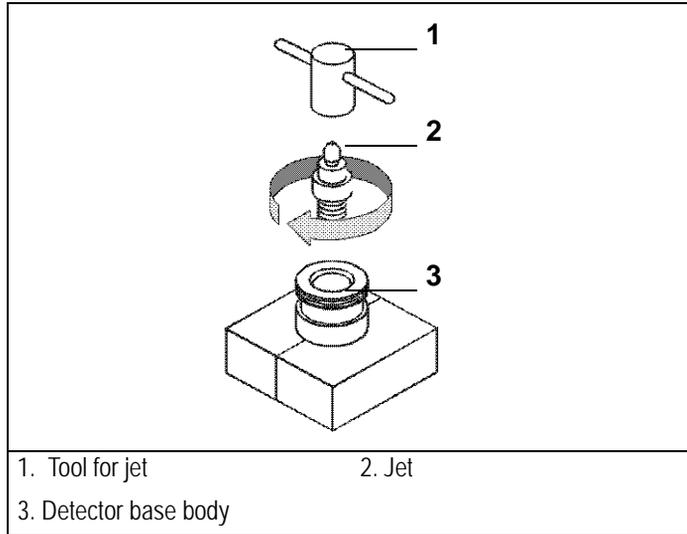

Figure 18-2. Jet for NPD
1. Place the jet into the detector base body housing and tighten it with the proper tool. Ensure the jet is perfectly vertically aligned to avoid damaging its ceramic part. Refer to Figure 18-2.